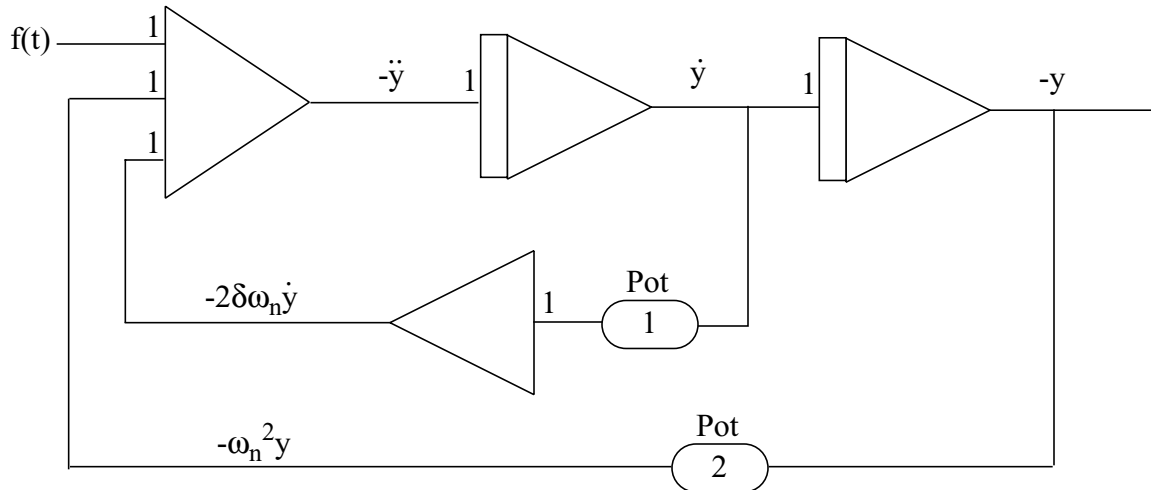

Figure 8.
Referring to equation (11) above,  $-\ddot{y}(t)$  can be generated from the output of the two integrators plus an input  $f(t)$  connected as shown in Figure 8.